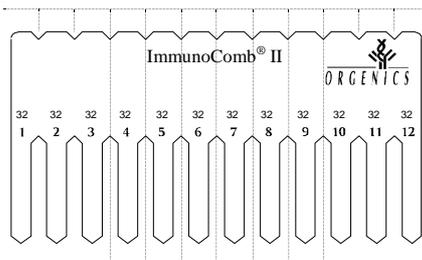

Figure 4. Breaking the Comb
- b. Bend and break the Comb vertically or cut with scissors (see Figure 4) to detach the required number of teeth (No. of tests including 2 controls).